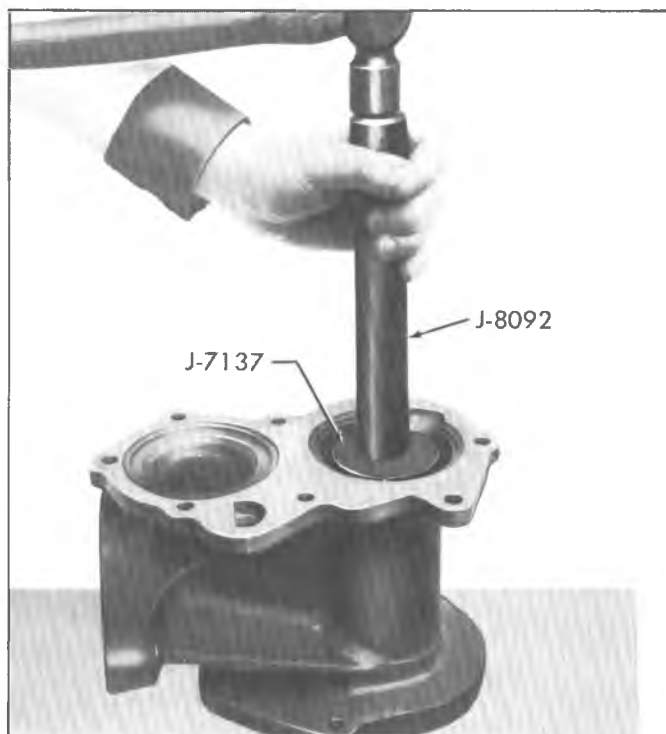

Fig. 3H--Installing Adapter Seal
2. Coat O.D. of seal with sealing compound and install seal using Tool J-23504 and Handle J-8092 in a similar manner as shown in Fig. 3H.
2. Using Tool J-7137 and Handle J-8092, install new seals in the adapter bore as shown in Figure 3H.
1. Install new seals in adapter using Tool J-7137 and J-8092 as shown in Figure 3H.